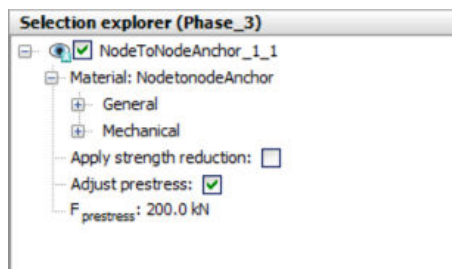

Figure 33: Node-to-node anchor in the Selection explorer
12. Click on the **Adjust prestress** checkbox. Enter a prestress force of 200kN as displayed in Figure 33 (on page 53).